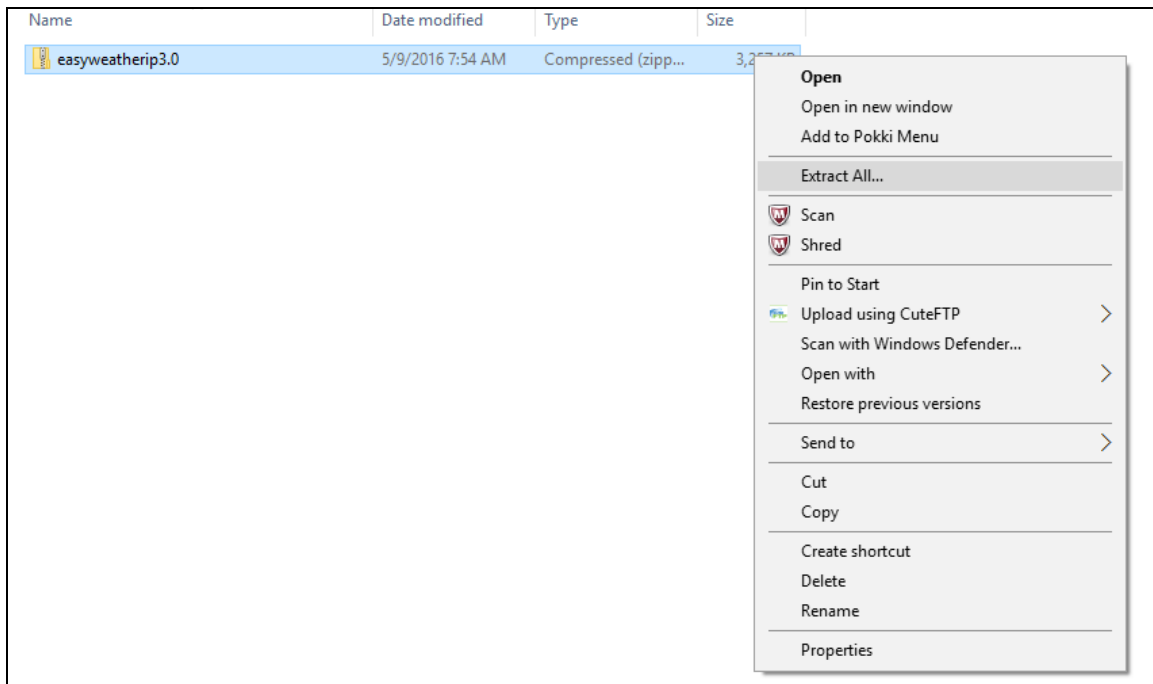

Figure 39
3. Extract the compressed (zip) file by right clicking on the **easyweatherip** file and selecting **Extract All...** as shown in Figure 39. Make a note of where you extracted this file because you will need to run the installer in the next step.